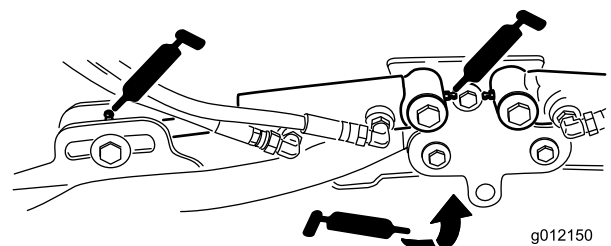

Figure 39
- Cutting unit lift arm cylinders (2 each) (Figure 39)
- Lift arm pivots (1 each) (Figure 39)